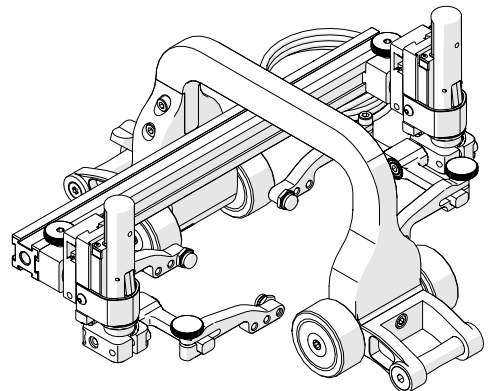

Fig. 76 - Mount probe holders
3. Assemble the appropriate configuration to the frame bar (Fig. 76). Install the wedge and probes that will be used (see Vertical Probe Holder on page 16).